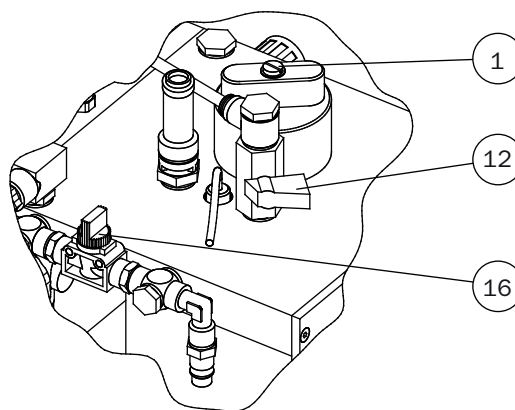

Fig. 24: Examples of shut-off valve settings:
1. First close the shut-off valve for the medium [12] (see fig. 24).